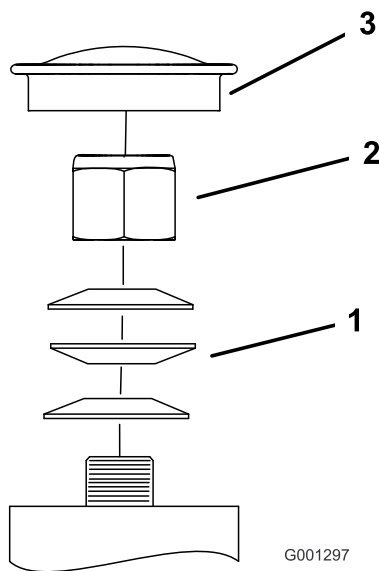

Figure 66
3. Remove the dust cap from caster and tighten lock nut (Figure 66).
4. Tighten the locknut until the spring washers are flat and then back off a 1/4 turn to properly set the pre-load on the bearings (Figure 66).
Important: Make sure the spring washers are installed correctly as shown in Figure 66.
5. Install the dust cap (Figure 66).